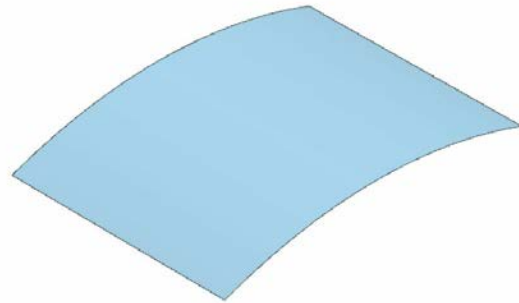

Figure 11-70 Base feature of the surface model
2. Extrude the sketch symmetrically on both sides of the sketching plane through a symmetric distance of 25 mm. The base feature of the surface model is shown in Figure 11-70.